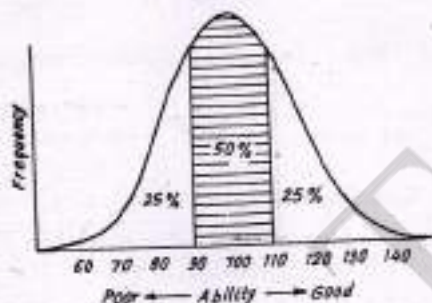

Fig. 19.1. Distribution of employees abilities.
measured trait (e.g., ability, muscular coordination, work performance, etc.) forms a distribution resembling a *Normal Distribution* and individuals fall at different points along the performance continuum (i.e., the X-axis). Fig. 19.1 shows a normal distribution curve
- Fig. 19.1 shows that about 50% individuals are near average in ability. It is these employees that a supervisor is most likely to understand and it is their performance that creates in the supervisor the notion of what he can expect in the form of a day's work.